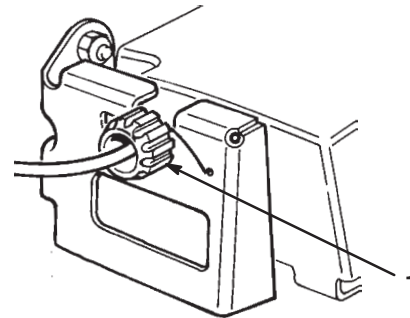

Figure 28
2. Rotate the control knob clockwise 1/2 turn if the lawn mower does not self-propel. If the lawn mower creeps forward, rotate the knob 1/2 turn counterclockwise to loosen the belt (Fig. 28).